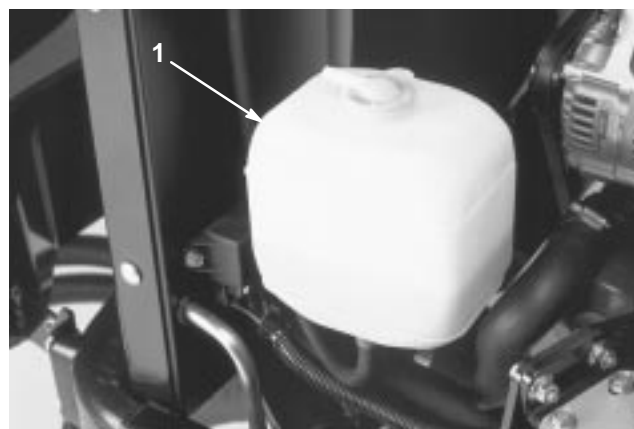

Figure 19
1. Check the coolant level in the expansion tank (Fig. 19). With a cold engine, the coolant level should be approximately midway between the marks on the side of the tank.